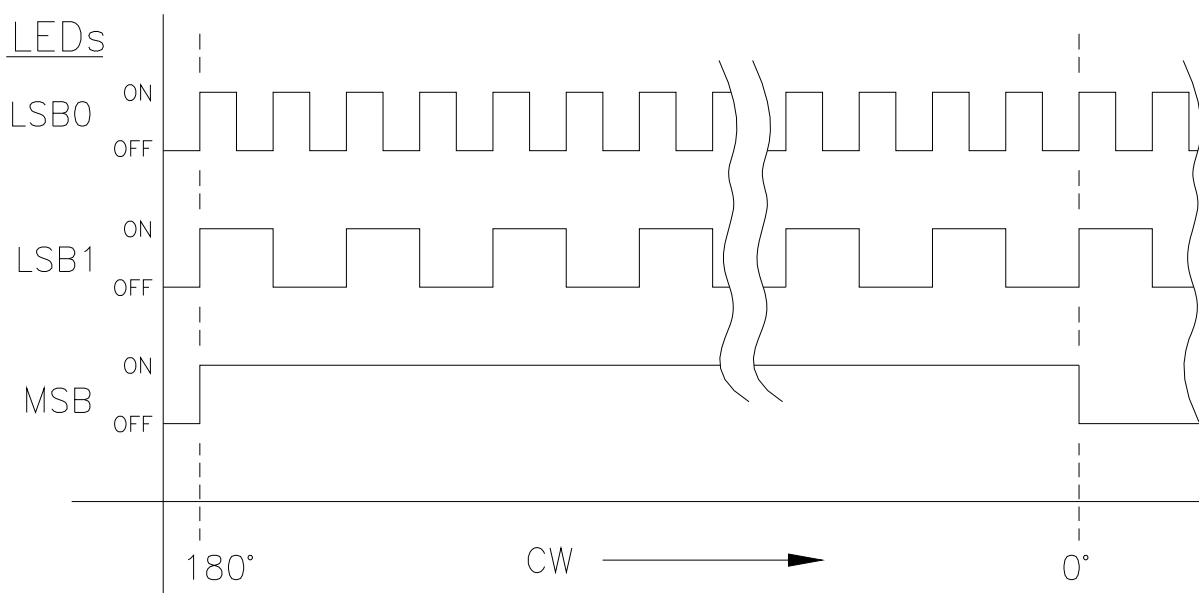

Figure 1 - LED Table
34. Slowly rotate the resolver shaft. The LSB0 and LSB1 LEDs on the RFC-240X should toggle on and off with slow rotations of the shaft (see **Figure 1**). The MSB LED should be on for 180° of shaft rotation, and off for 180° of shaft rotation.
2. Continue to rotate the shaft CW until the MSB LED is turned from ON to OFF (see **Figure 1**). At the toggling point of the MSB LED, the resolver is at 0.0 shaft angle.